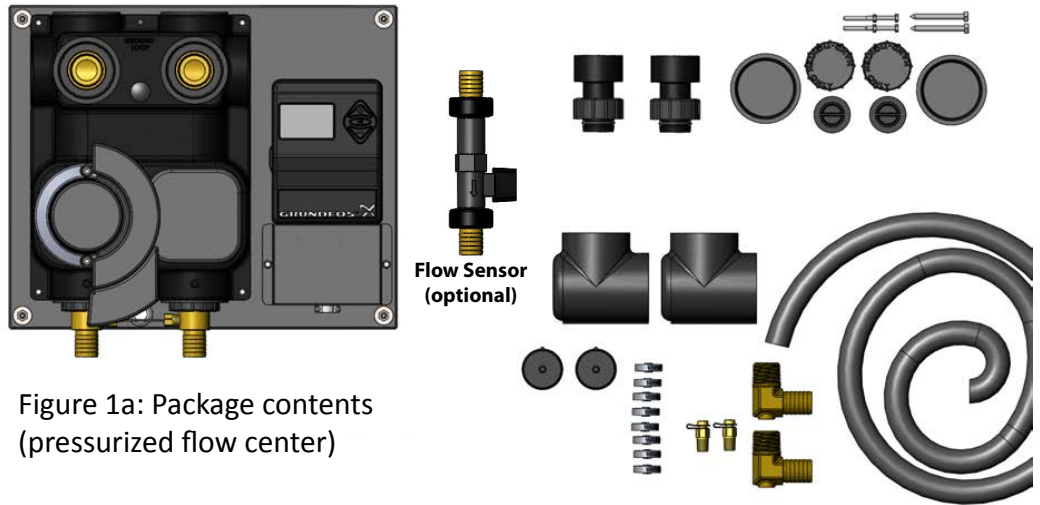

Figure 1a: Package contents (pressurized flow center)
1. Verify package contents. Included in the package is the panel/flow center/controller, as well as all of the fittings needed for connecting to the ground loop and heat pump (Figures 1a and 1b).